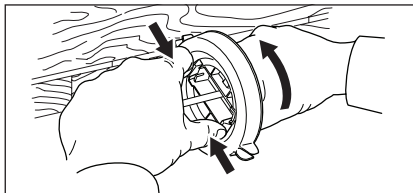

Figure 11. Remove Barrel from Cap
2. Rest the tab of the cap on a table or bench. Squeeze the tabs that lock the barrel to the cap and turn the barrel counterclockwise to unlock the barrel. See Figure 11.